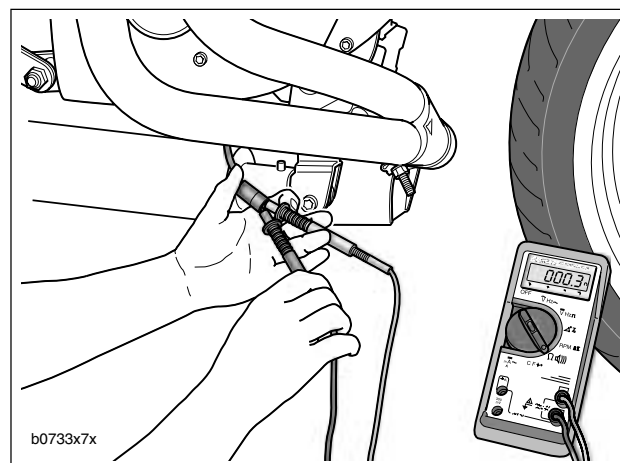

Figure 7-42. Check for Stator Resistance
4. See Figure 7-42. Remove ground lead. Insert lead into the remaining stator socket.